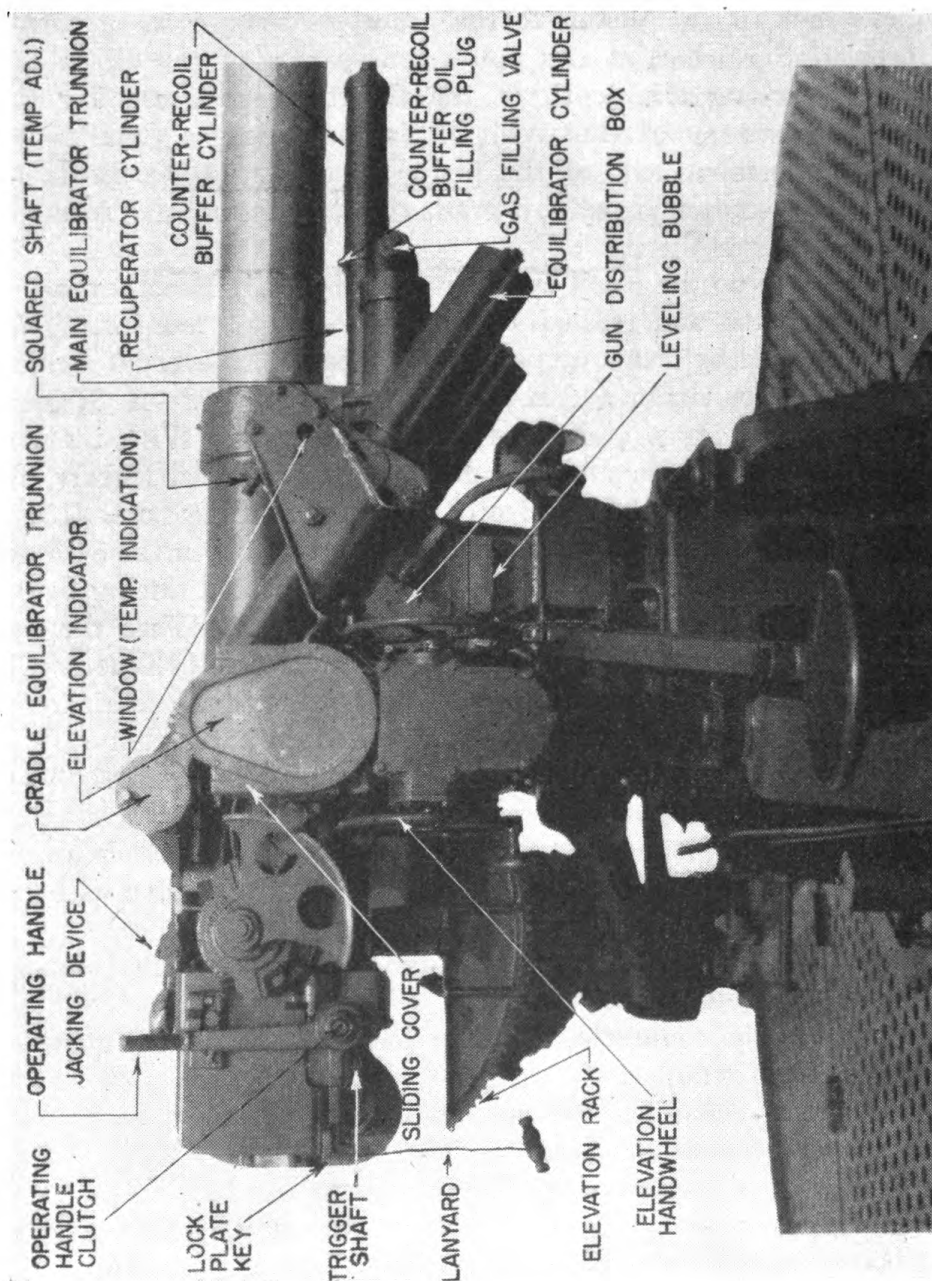

FIGURE 19.—3-inch gun M3 on M2A2 mount (right side).
A. Practical demonstration on gun. See also figures 19 and 20.
A. Practical demonstration on mount. See also figures 19 and 20.